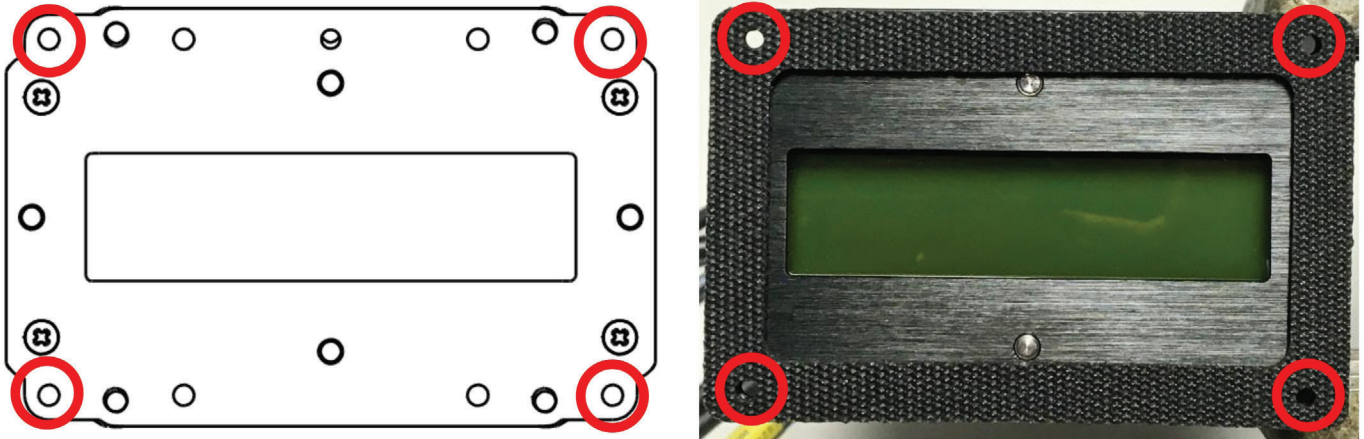

Figure 4 – Mounting Gasket Alignment
- 4. Place the external mounting gasket (PN 1012323) onto faceplate, aligning the holes seen in Figure 4.